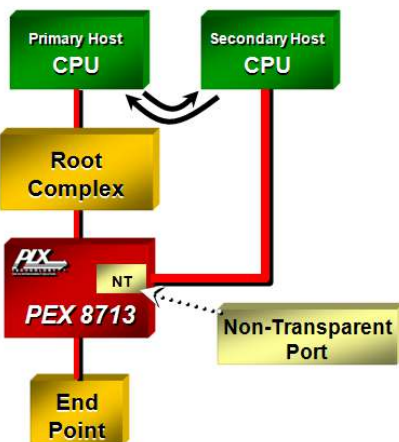

Figure 3. Non-Transparent Port
In Single-Host mode, the PEX 8713 supports 2 **Non-Transparent (NT) Ports**, which enables the implementation of **dual-host systems** for redundancy and host failover capability. The NT port allows systems to isolate host memory domains by presenting the processor subsystem as an endpoint rather than another memory system. Base address registers are used to translate addresses; doorbell registers are used to send interrupts between the address domains; and scratchpad registers (accessible by both CPUs) allow inter-processor communication (see Figure 3).